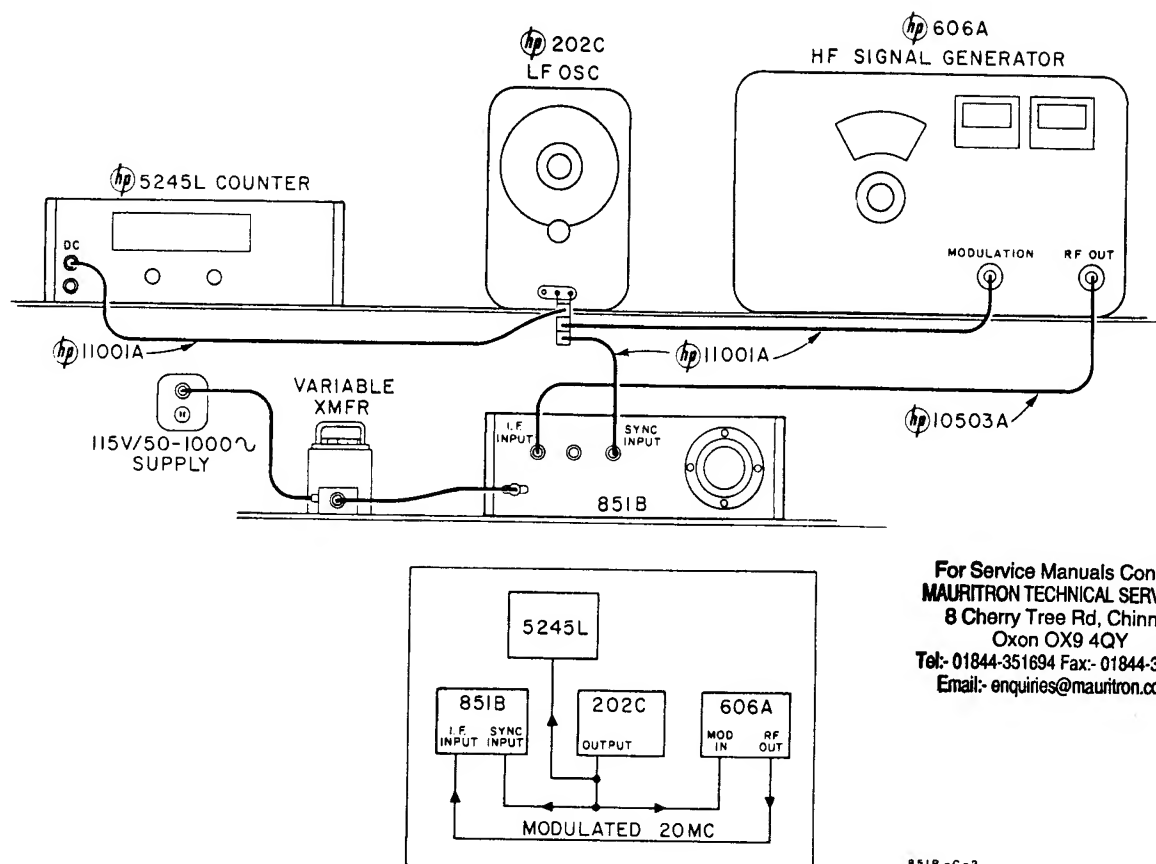

Figure 5-3. Measurement Setup, Sweep Calibration
5-53. MEASUREMENT SETUP. Connect as indicated in Figure 5-3.
5-54. PROCEDURE. The following instructions assume use of equipment shown in Figure 5-3.
e. With equipments connected as shown in Figure 5-3, the output of Oscillator 202C, monitored by Counter, is modulating the 20-Mc output of the Signal
5-56. SETUP. To check that the SWEEP TIME VERNIER has the proper range, use the setup used for SWEEP TIME calibration (see Paragraph 5-51 and Figure 5-3).
5-63. MEASUREMENT SETUP. Similar to that shown in Figure 5-3 except that Oscilloscope replaces Counter, and is connected as noted in Paragraphs 5-65, 5-66, and 5-67.
5-71. MEASUREMENT SETUP. Make connections between Low-Frequency Oscillator, Signal Generator, and 851 as indicated in Figure 5-3.